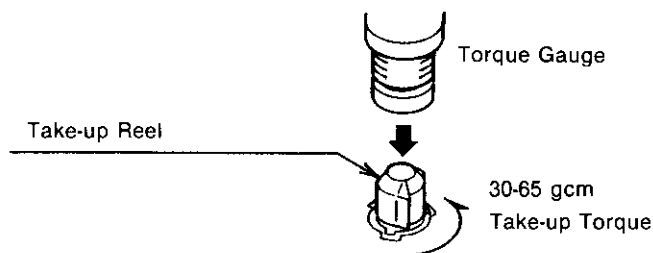

Figure 3
3. Load a 6.3 kHz test tape MTT-113 into the unit. Turn Azimuth Adjusting Screw for a gauge. A take-up torque of 30-65 gcm is required (Figure 3).
1. Set the unit in the playback mode and measure the torque of the take-up reel with a torque gauge. A take-up torque of 30-65 gcm is required (Figure 3).